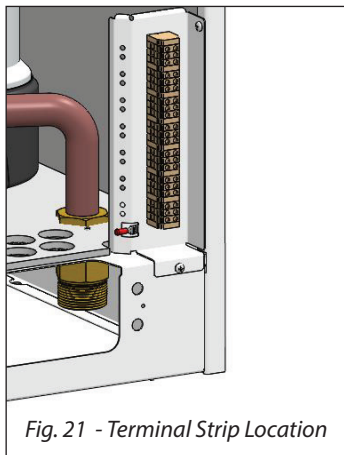

Fig. 21 - Terminal Strip Location
The low voltage terminals are located at the bottom of the CTRLMax control module. The line voltage terminals are located in the lower right corner as shown in Fig. 21 below.
1. Connect a dedicated 120 VAC/15A service to the line voltage terminals located internally in the lower right corner, as shown in Fig. 21 below.
2. Connect the CH circulator wiring to the line voltage terminals located internally in the lower right corner, as shown in Fig. 21 on the left. This circulator is typically used to supply heat to the central/space heating loop.
3. Connect the DHW circulator wiring to the line voltage terminals located internally in the lower right corner, as shown in Fig. 21 on the left. This circulator is typically used to supply heat to an indirect hot water heater.
4. Connect the P3 circulator wiring to the line voltage terminals located internally in the lower right corner, as shown in Fig. 21 on the left. This circulator is typically used to circulate water through the PRESTIGE Solo in primary/secondary piped systems.
5. Connect the P4 circulator wiring to the line voltage terminals located internally in the lower right corner, as shown in Fig. 21 on the left. This circulator is typically used as a dedicated circulator to a second space heating zone.
1. Connect the external monitoring device to the line voltage terminals located internally in the lower right corner, as shown in *Fig. 21 on page 35*.